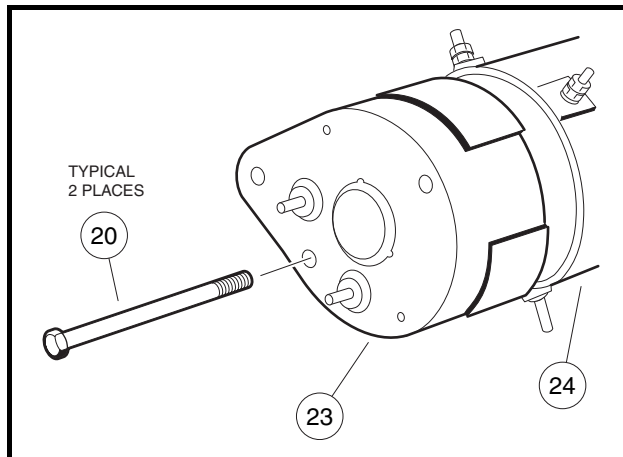

Figure 12-2 Commutator End Cover
1. Remove the two bolts (20) and pull commutator end cover (23) free of starter/generator housing (24) (**Figure 12-2, Page 12-2**). See following NOTE.
3. Install the commutator end cover (23) onto the armature shaft. Align the locating pin with the pin hole in the cover. Install two M6 x 180 mm bolts (20) and tighten to 100 in-lb (11.3 N·m) **(Figure 12-2, Page 12-2)**.
2. Remove the two bolts (20), and pull commutator end cover (23) free of the starter/generator housing (24) **(Figure 12-2, Page 12-2)**.
9. Install the commutator end cover (23) onto the armature shaft. Align the locating pin with the pin hole in the cover. Install the two M6 x 180 mm bolts (20), and tighten to 100 in-lb (11.3 N·m) (**Figure 12-2, Page 12-2**).